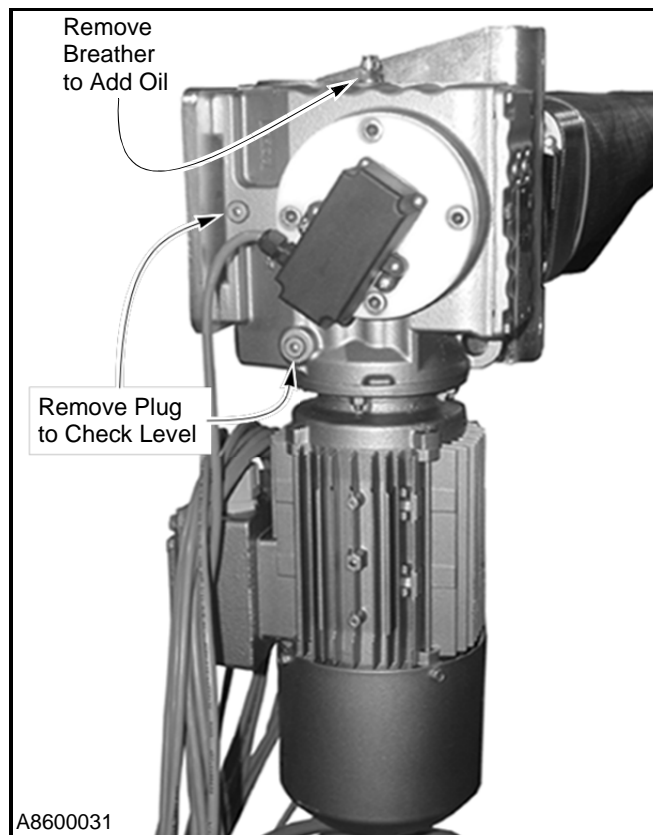

Figure 32
- Drive Motor Gearbox Assembly:** The oil level in the gearbox should be checked regularly. The oil level is checked at the plug located on the gearbox. (See Figure 32)